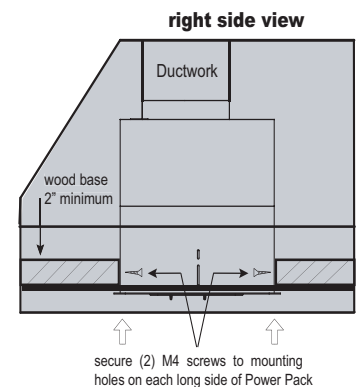

FIG 3
4. Fasten (2) M4 screws into each long side of Power Pack. If a liner is used the screws will go through the Power Pack mounting holes, then the liner and into the wood base. **note:** Wood blocking may need to be added to cabinet base if additional support is needed. see **FIG 3 and FIG 4**